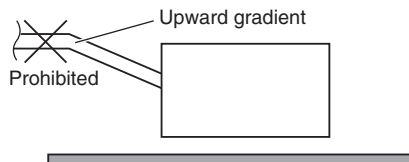

Fig. 3-12
- Do not install the pipe with an upward gradient from the connection port. This will cause the drain water to flow backward and leak when the unit is not operating. (Fig. 3-12)